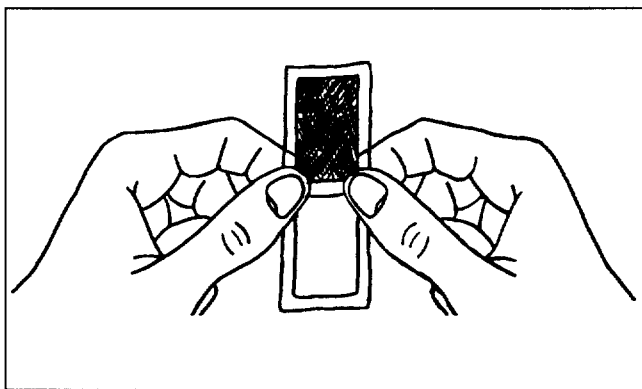

Figure 8
2. Grip both edges of the bag at the center seal (Fig. 8). To break the seal between the two liquids, wrinkle and flex the bag across the seal about six times.